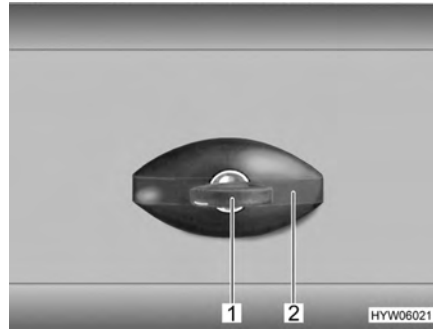

Fig. 34 Flap lock, elliptical-shaped, closed
- Insert key into locking cylinder (Fig. 34,1) and turn a quarter turn in an anti-clockwise direction. The lock handle (Fig. 34,2) snaps out.